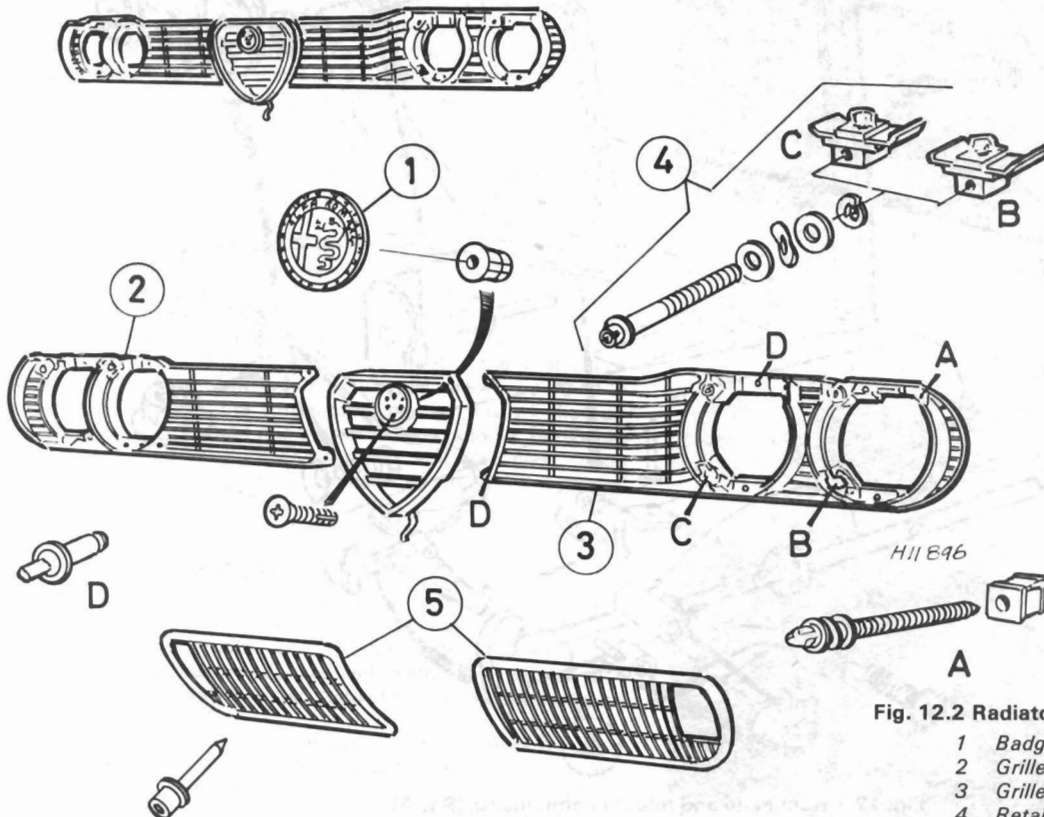

Fig. 12.2 Radiator grille components (Sec 8)
- 1 The radiator grille is held in position by pop rivets which will have to be drilled out for removal. Refer to Fig. 12.2 for further details.